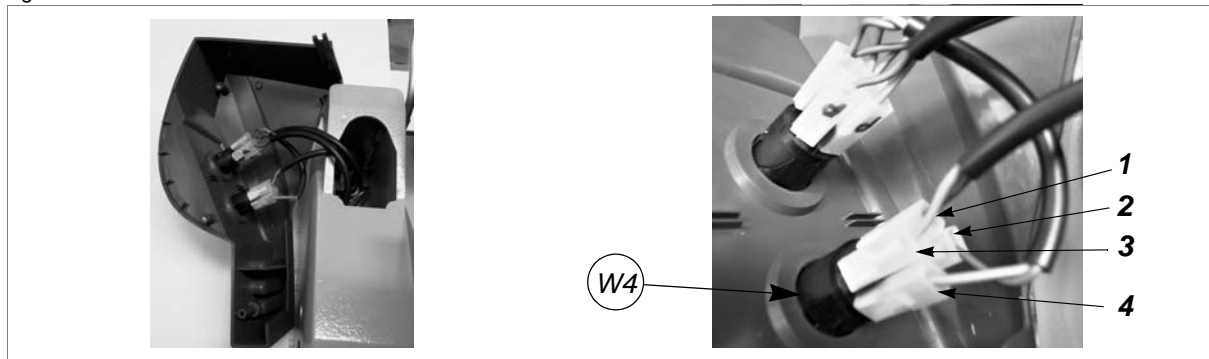

Fig. 38
- 10) Remove the connectors (1, 2, 3, 4), paying attention to their positions (fig. 38, page 26).